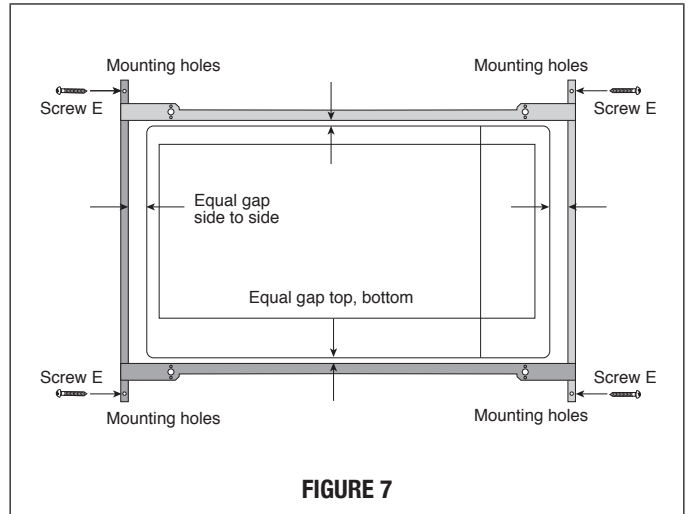

FIGURE 7
4. **BACK FRAME INSTALLATION:** Position BACK FRAME with equal space top to bottom, side to side. Mark for 4 holes, center punch and pre-drill the cabinet with $\frac{1}{16}$ " drill bit. Secure frame with 4 SCREWS E. See Figure 7.
4. **BACK FRAME INSTALLATION:** Position BACK FRAME equal space top to bottom, side to side. Mark for 4 holes on the installed wood cleats, center punch and pre-drill with $\frac{1}{16}$ " drill bit. Secure frame with 4 SCREWS E. See Figure 7.